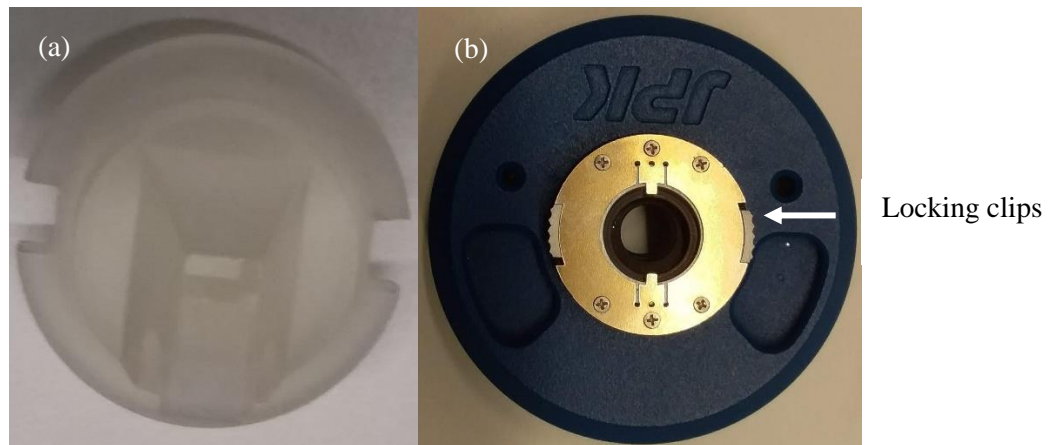

Figure 1: (a) Glass Cantilever Holder, and (b) Cantilever changing tool.
Cantilevers or probes are common terms usually indicating the measuring device as a whole, but there are specific parts, as shown in Figure 1. The chip is the largest part and is the section that is handled with tweezers. The cantilever is the measuring probe which can be seen on the end of the chip if you have very good eyesight or use a magnifying glass. The tip which contacts the sample is very close to the end of the cantilever.
Figure 1: Chip, cantilever, and tip [An, Y., Manuguri, S.S. and Malmström, J., 2020. Atomic Force Microscopy of Proteins. In *Protein Nanotechnology* (pp. 247-285). Humana, New York, NY].
-Step 1: Place glass cantilever holder in the cantilever changing tool, turn cantilever holder a $\frac{1}{4}$ turn, and secure with the locking clips. Figure 1.